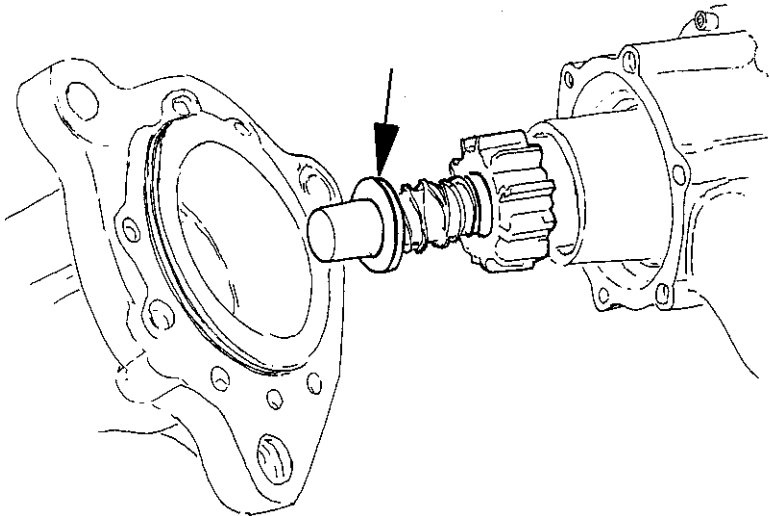

Figure 2 - Verify Washer is on the Shaft (Arrow)
5. Remove the nose cone housing. Verify the washer is still on the shaft (Figure 2).